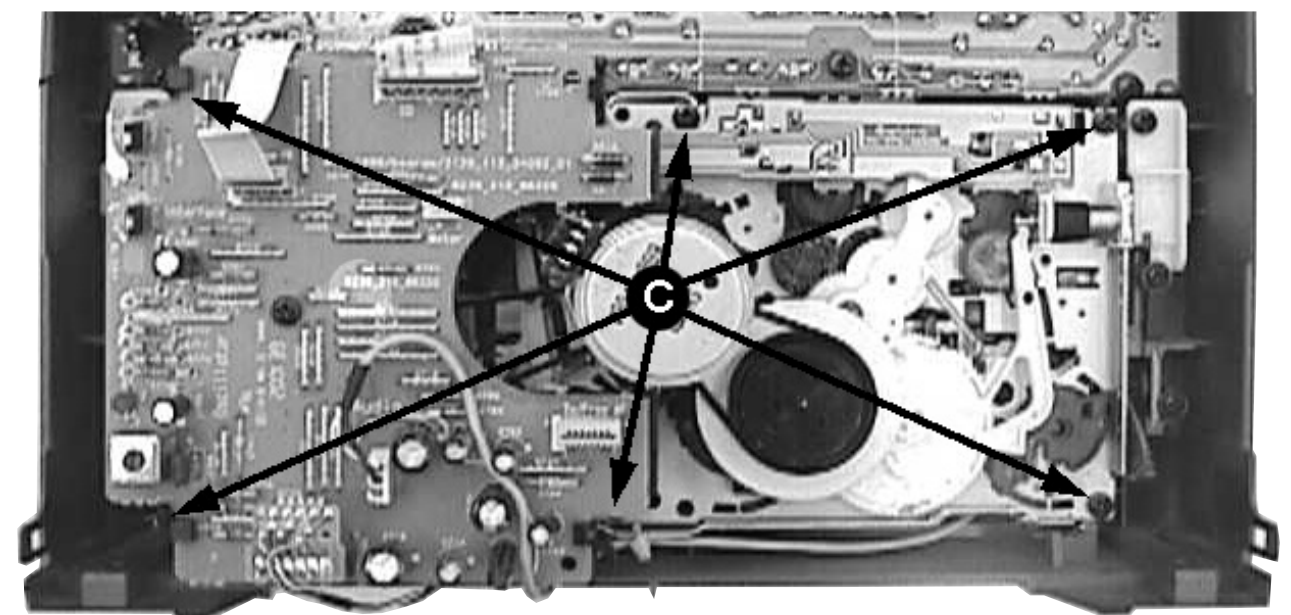

Figure 6
- 5) Loosen 6 screws C and eject both cassette doors to remove the Tape mechanism (pos 1103) as shown in figure 6.